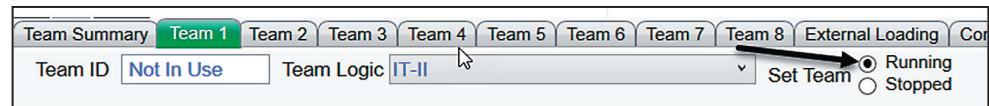

Figure 13. The Set Team mode in the Running state.
- STEP 5.** Change the **Set Team** option to **Running** mode in the *Setup>Restoration>IntelliTeam SG>Team X* screen(s), and validate and apply the settings for each device. See Figure 13 on page 10.